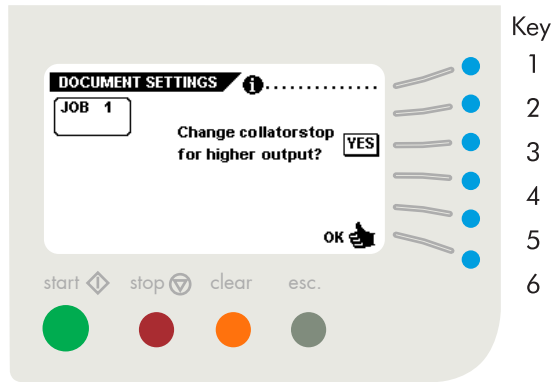

Fig. 40
When the document size is decreased in such a way that an earlier collator stop position can be used, the screen given in fig. 40 will be shown when the OK key or key 1 is pressed.